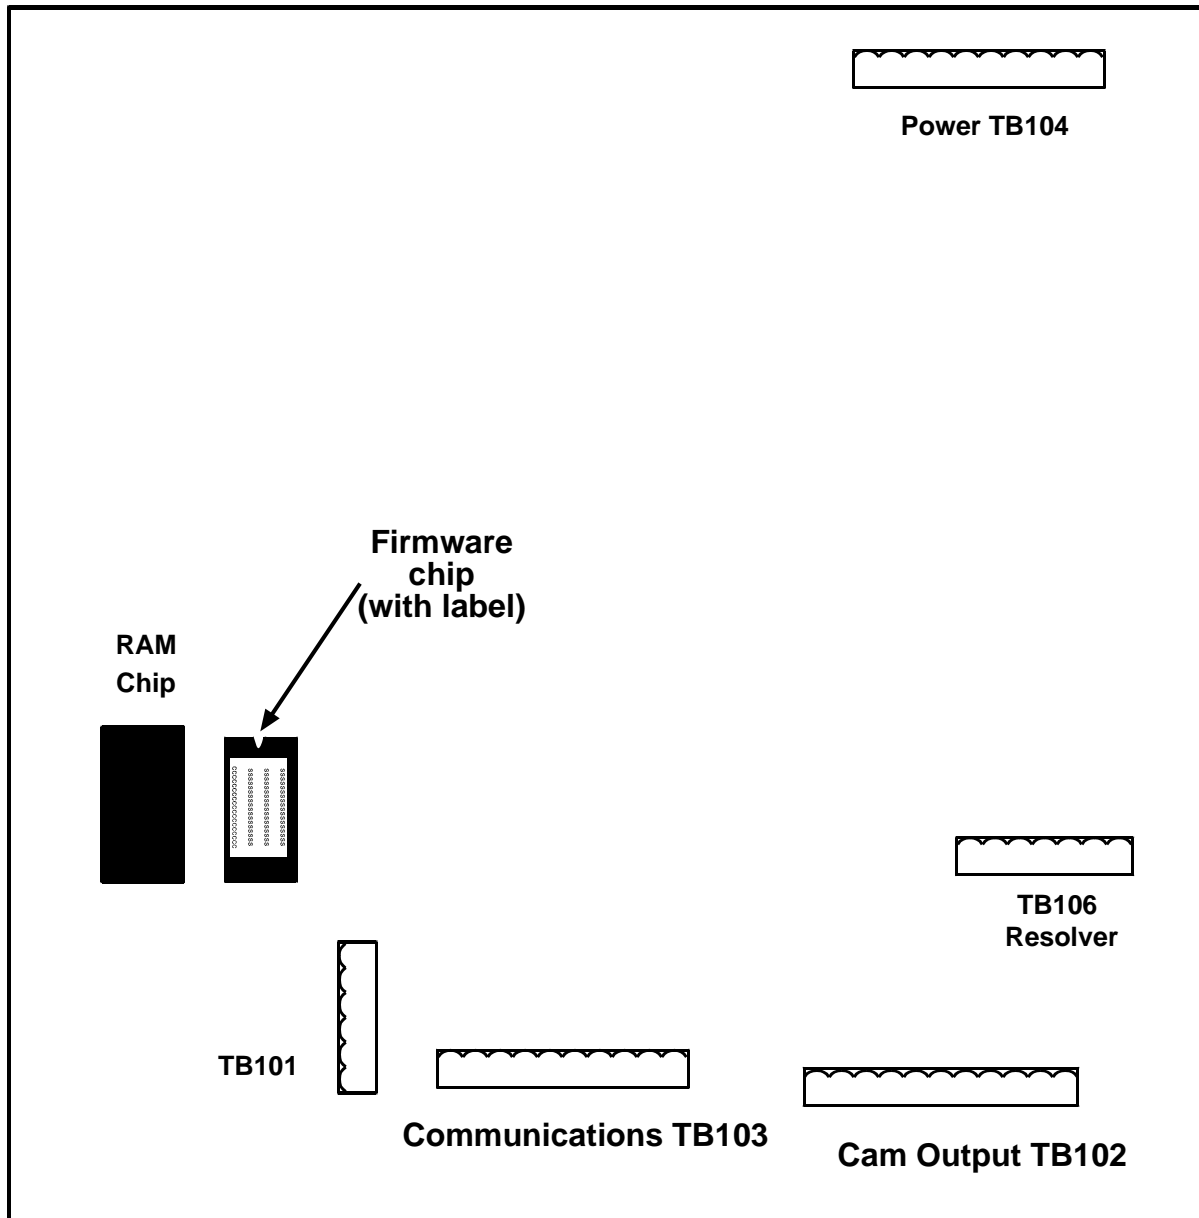
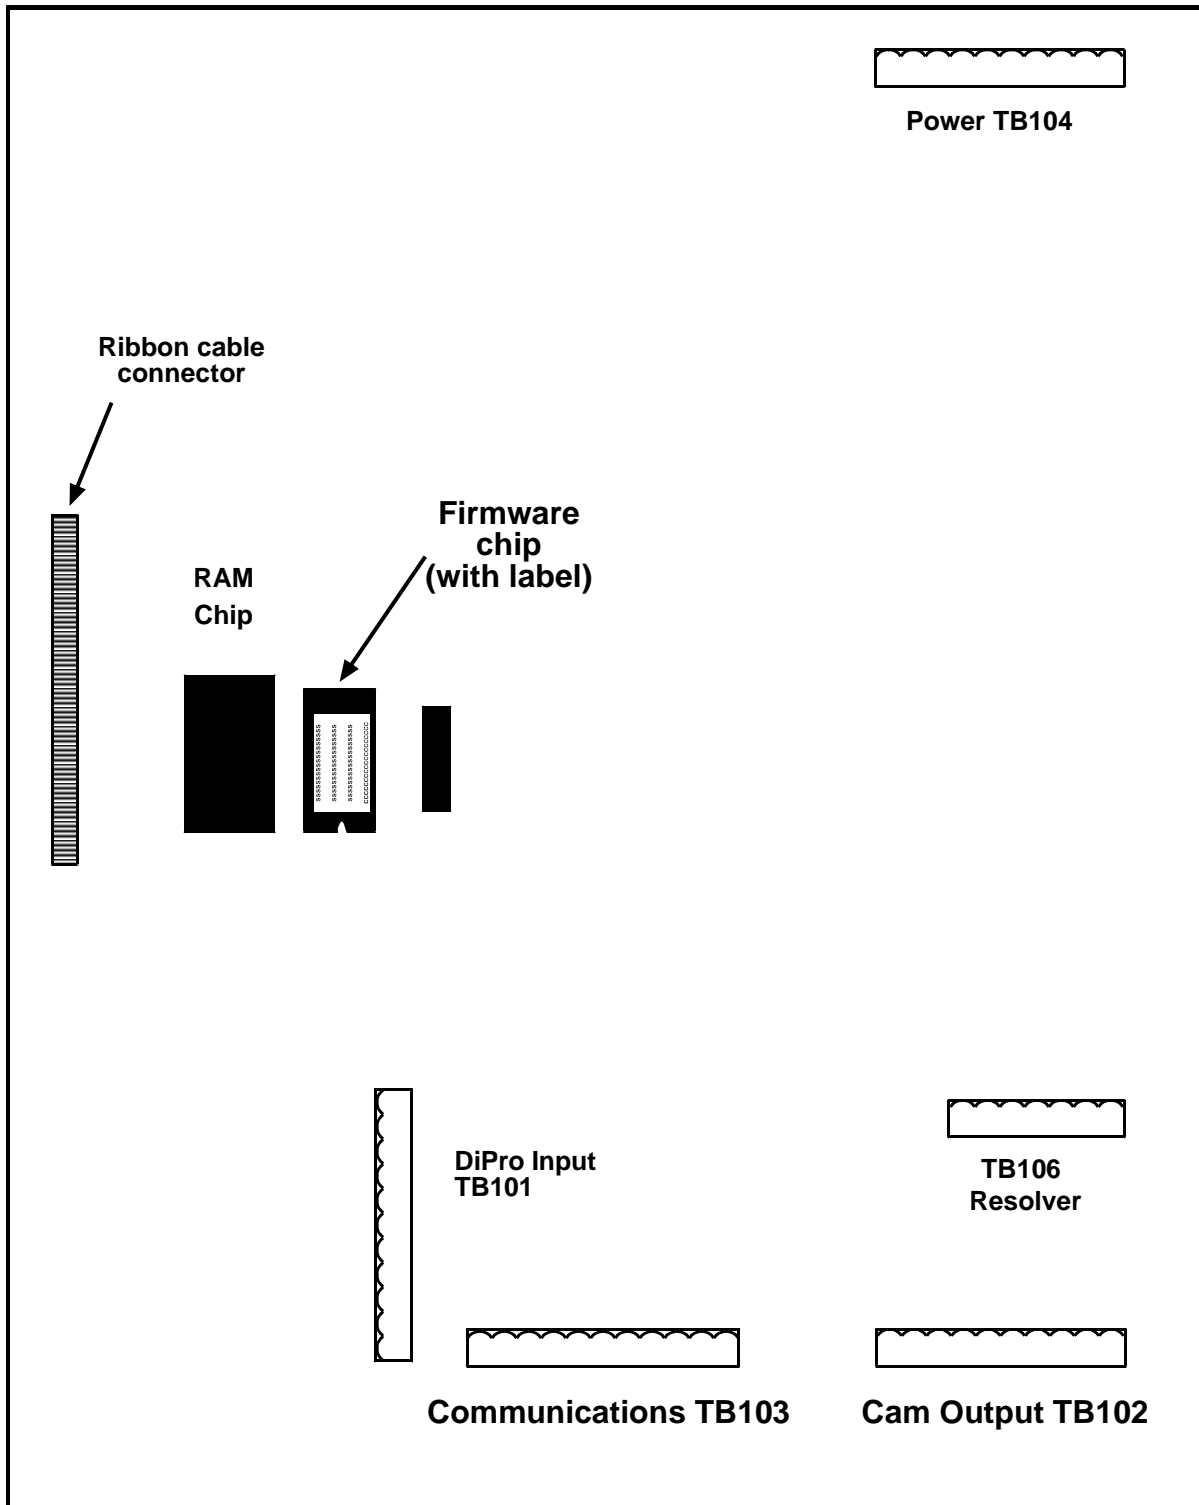

Figure 2-3. ProCam 1500 Processor Board: Location of Important Components (Back Side of Panel Mount)
Figure 2-4. DiPro 1500 Processor Board: Location of Important Components
2. Making sure that you are grounded, open the 1500 enclosure and find the firmware chip on the processor board (see Figure 2-3, next page, for chip location on the ProCam 1500 processor board and Figure 2-4, page 17, for chip location on the DiPro 1500 processor board). Note the orientation of the notch on the chip.
The white label on the firmware chip provides ProCam 1500 (see Figure 2-3) or DiPro 1500 (see Figure 2-4) firmware identification information, including version number.
2. Locate terminal TB103 on the ProCam 1500 or DiPro 1500 processor board (see Figure 2-3, page 16, or Figure 2-4, page 17). Next, find the RS-232 serial communications port (Port #2) on the front of the feed controller and the DB-25 connector on the feed's operator terminal board.
3. Locate terminal TB103 on the ProCam 1500 or DiPro 1500 processor board (see Figure 2-3, page 16, or Figure 2-4, page 17). Next, find the RS-232 port (Port #2) on the feed controller.